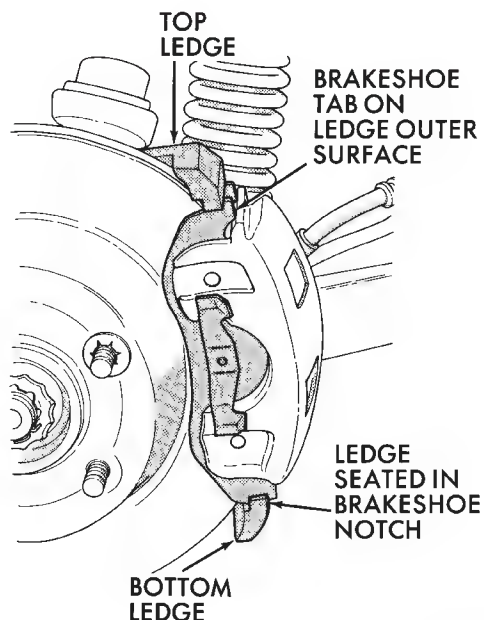

Fig. 13 Caliper Installation
(7) Install caliper. Position notches at lower end of brakeshoes on bottom mounting ledge (Fig. 13). Then
- (3) Install caliper. Position mounting notches at lower end of brakeshoes on bottom mounting ledge (Fig. 13). Then rotate caliper over rotor and seat notches at upper end of shoes on mounting ledge (Fig. 13).
- (4) Coat caliper mounting bolts with GE 661 or Dow 111 silicone grease. Then install and tighten bolts to 10-20 N·m (7-15 ft. lbs.) torque.